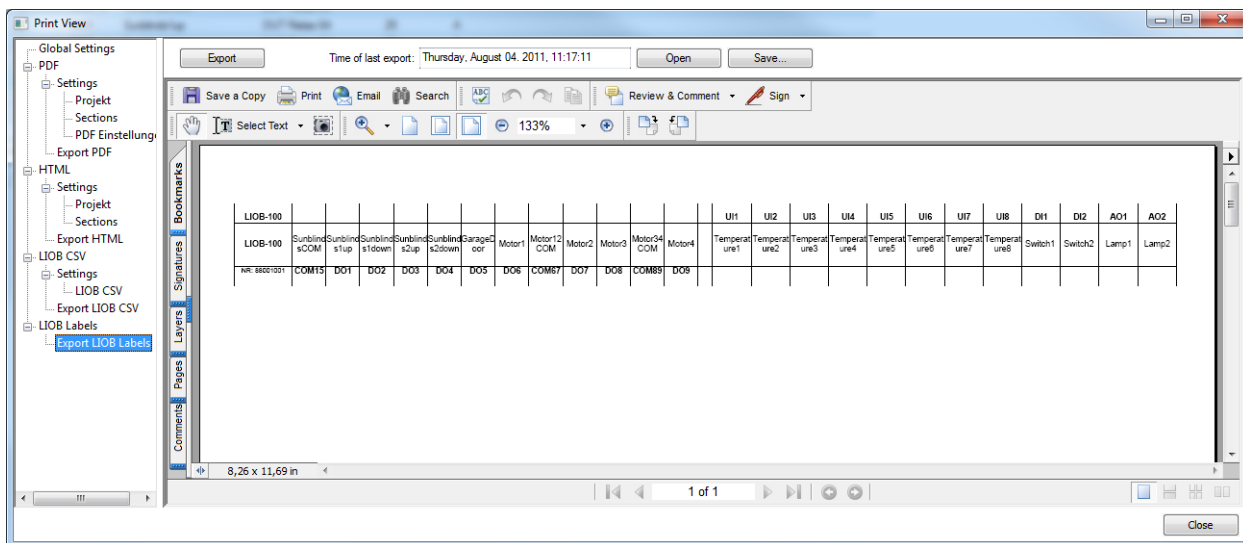

Figure 144: Print View
3. This opens the Print View dialog as shown in Figure 144. Select **Export LIOB Labels** on the left side.